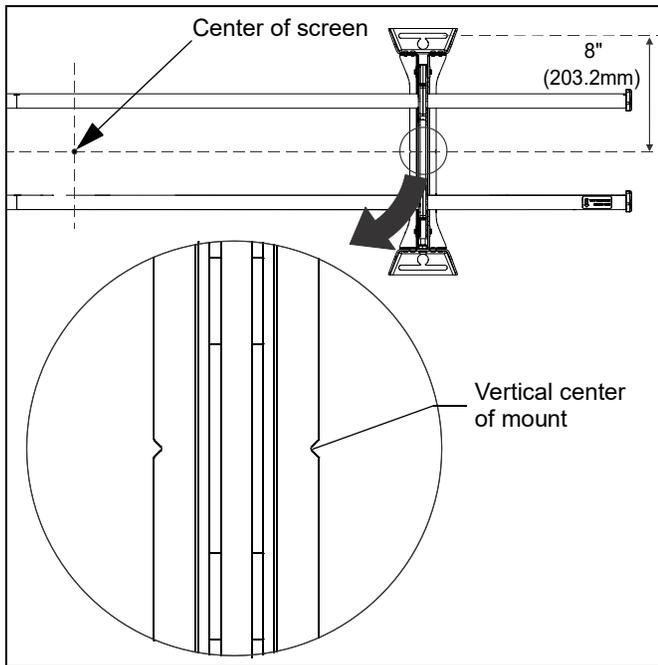

Figure 4
4. Position collars (BB) over the seams between rails and install two 1/4"-20 set screws (AA) into each collar. Rotate rails to position screws towards underside of assembly. (See Figure 4)
7. Line up the notches on mount with center of screen marking to determine vertical center. (See Figure 4)